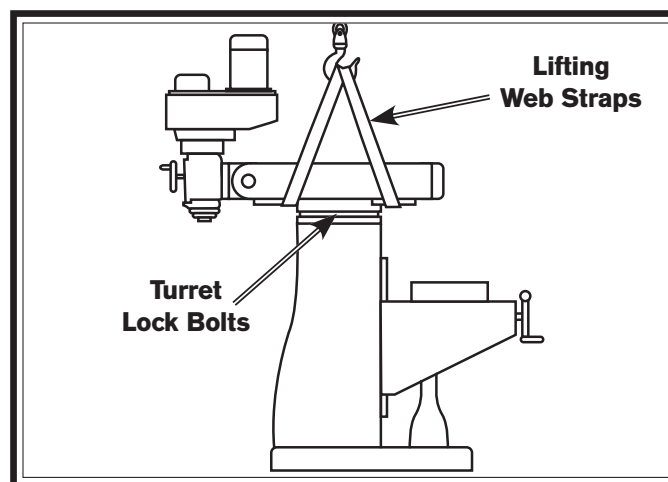

Figure 7. Lifting the mill using web straps.
2. Place the lifting web straps under the ram and connect them to the forklift safety hook and chain, as illustrated in **Figure 7**.